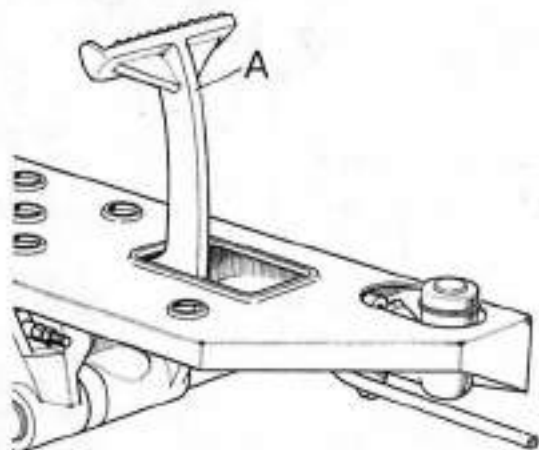

FIGURE 1/4.
**Four-wheel brakes** — Highway tractors are fitted with hydraulic brakes on the front wheels with a single pedal (see Fig. 1/4) actuating both these and the mechanical rear wheel brakes together. Note that independent rear wheel braking is not available with four wheel brakes.